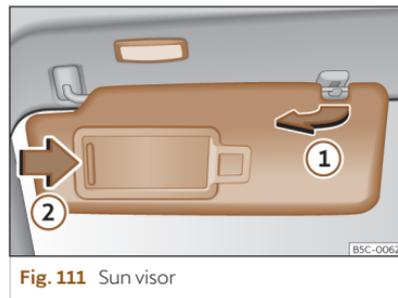

Fig. 111 Sun visor
- The sun visor can be pulled out of its mounting and turned towards the door >>> Fig. 111 ①.